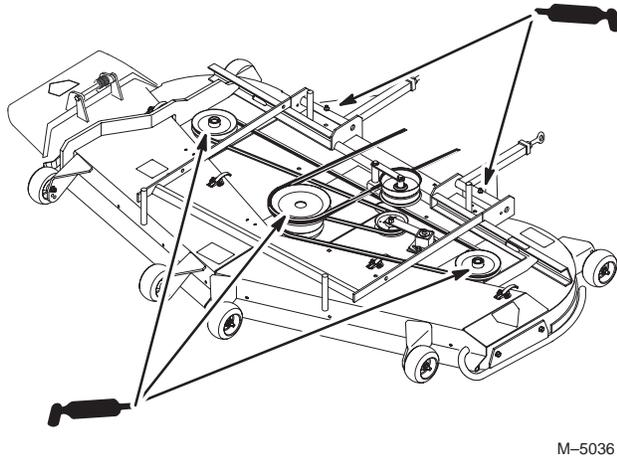

Figure 47
2. Grease the fittings on the three spindle bearings until grease comes out of the lower seals (Fig. 47).
- Grease the fittings on the push arms (Fig. 47).